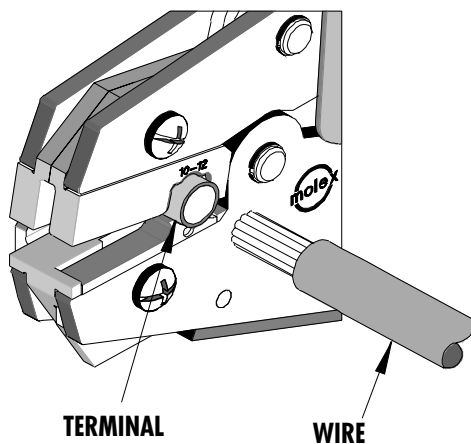

Figure 2
2. Partially close the tool to hold the terminal in place shown in Figure 2.
3. Insert the properly stripped wire into the terminal barrel. See Figure 2 and 3. The wire ends should butt against the inside of the connector. Cycle the tool.